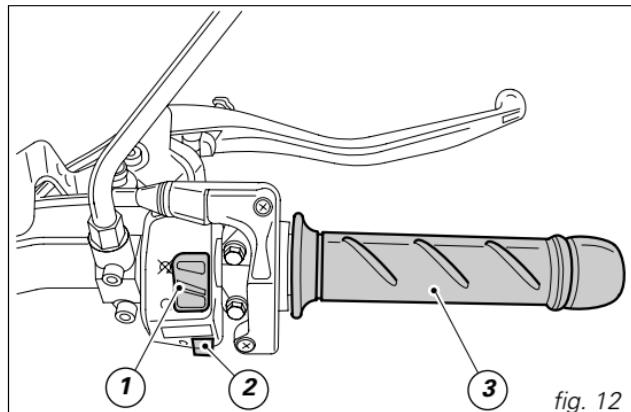

fig. 12
- 1) if the code is recognised, the light (6, fig. 4) on the instrument panel will flash briefly. This means that the immobilizer system has recognised the key code and enabled engine ignition. When you press the START (2, fig. 12) button, the engine starts up.
## **E** Right-hand handlebar switch (fig. 12)
## Throttle twistgrip (fig. 12)